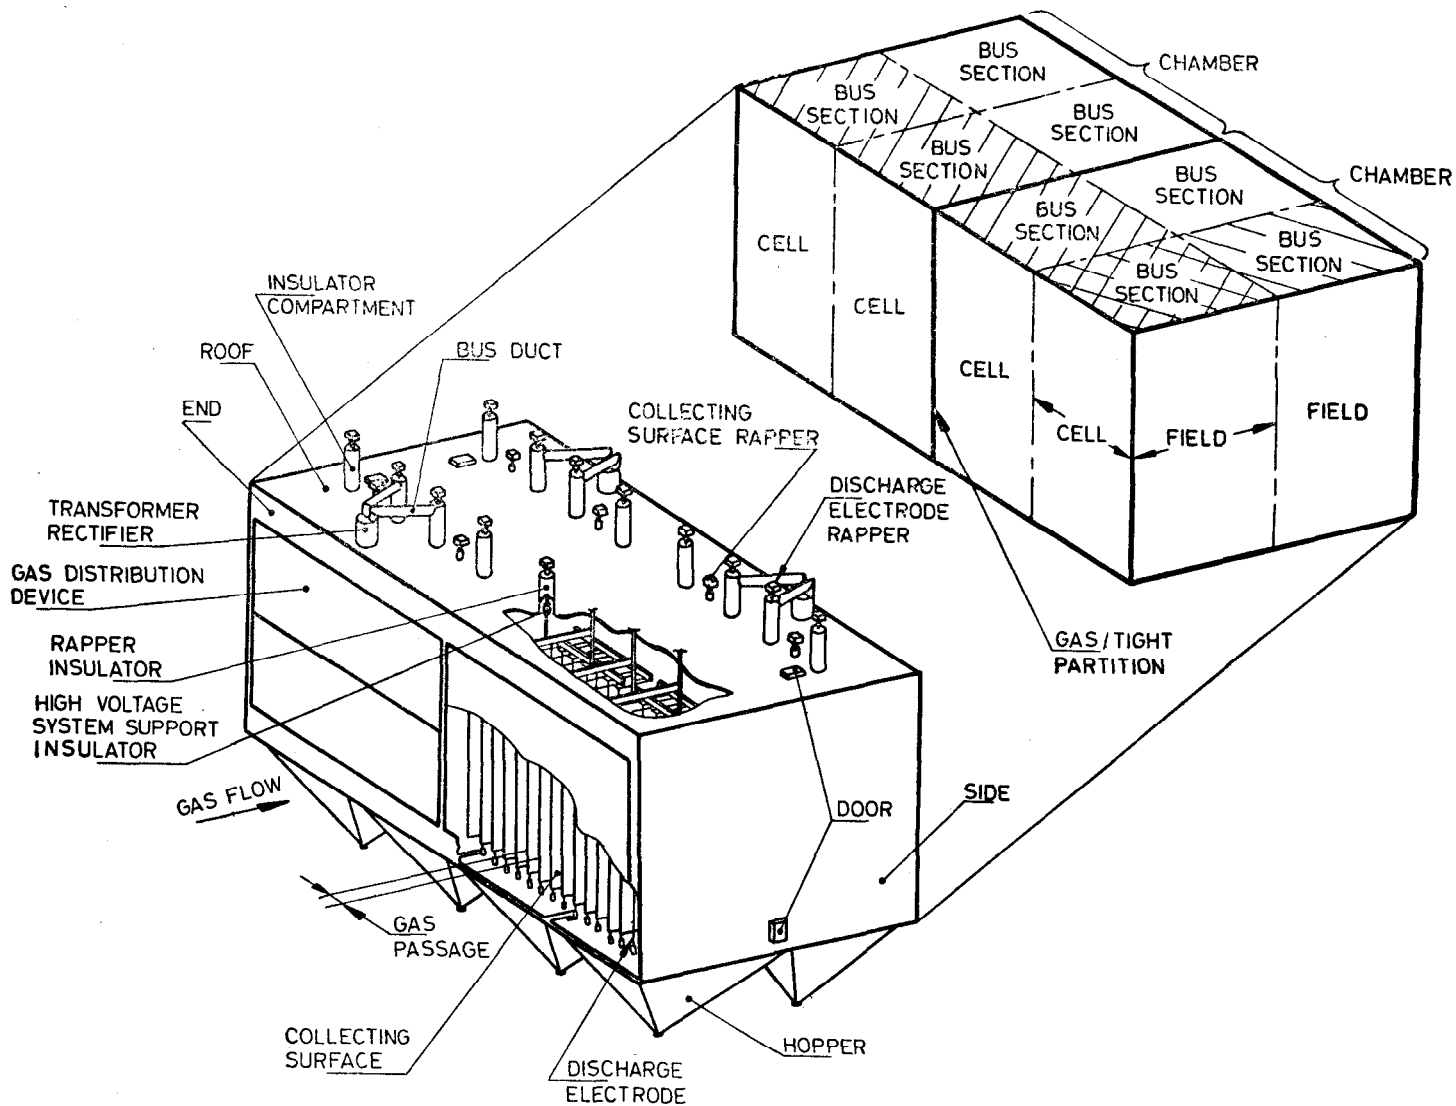

FIG. 1 ELECTROSTATIC PRECIPITATOR
2. Terminology — For the purpose of this standard, the various components of the precipitators shall be as designated in Fig. 1.